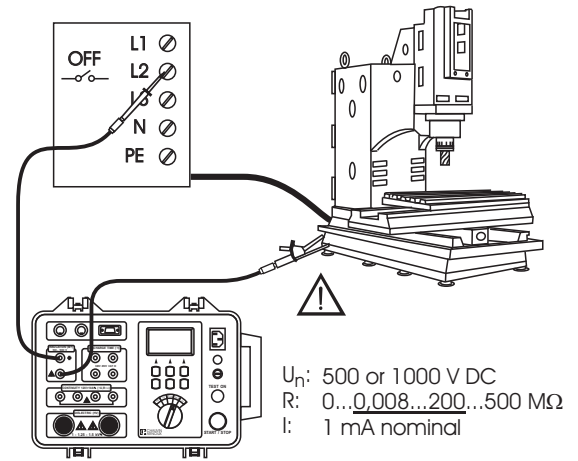

Fig.18. Connection of the test leads
3. Connect the test leads to the instrument and to the tested instrument in accordance with the figure 18.